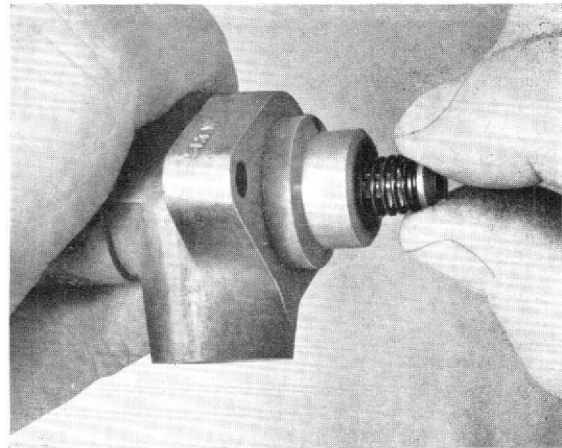

Fig. 9. Checking grip of piston spring.
- (e) Ensure that the peening into the screw driver slot of screw (14) and of adjuster body plug (1) is in good order. If there is any sign of displacement the pump assembly should be replaced.
- (f) Pull out pumping piston (10) and carefully examine the fixing of the spring (9) under the foot of piston (10). The bottom coil of spring (9) is decreased in size during manufacture to enable a snug fit to be achieved at this point. The upper coil grips an enlarged shoulder formed on the lower end of the cylinder (15), and when reinserting the piston (10) the spring (9) should be firmly twisted *against* the winding of the coils to ensure that the upper coil does encompass this shoulder; a pull outwards on the piston (10) will disclose whether the spring (9) is held firmly in position (Fig. 9). Should it prove impossible to achieve a secure hold in the above manner the spring (9) should be replaced.